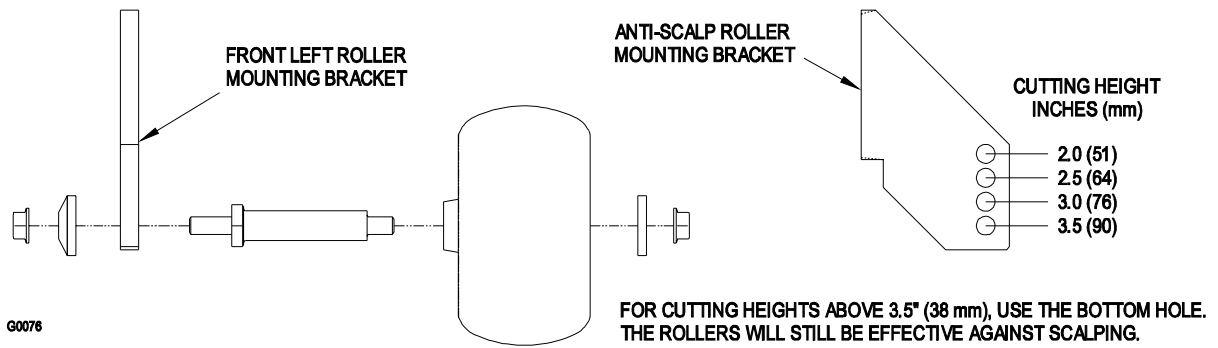

FIGURE 10
- g) Adjust anti-scalp rollers for Normal Operating Conditions. Place rollers in one of the positions shown in Figure 10. Rollers will maintain 3/4 in. (19 mm) clearance to the ground to minimize gouging and roller wear or damage.